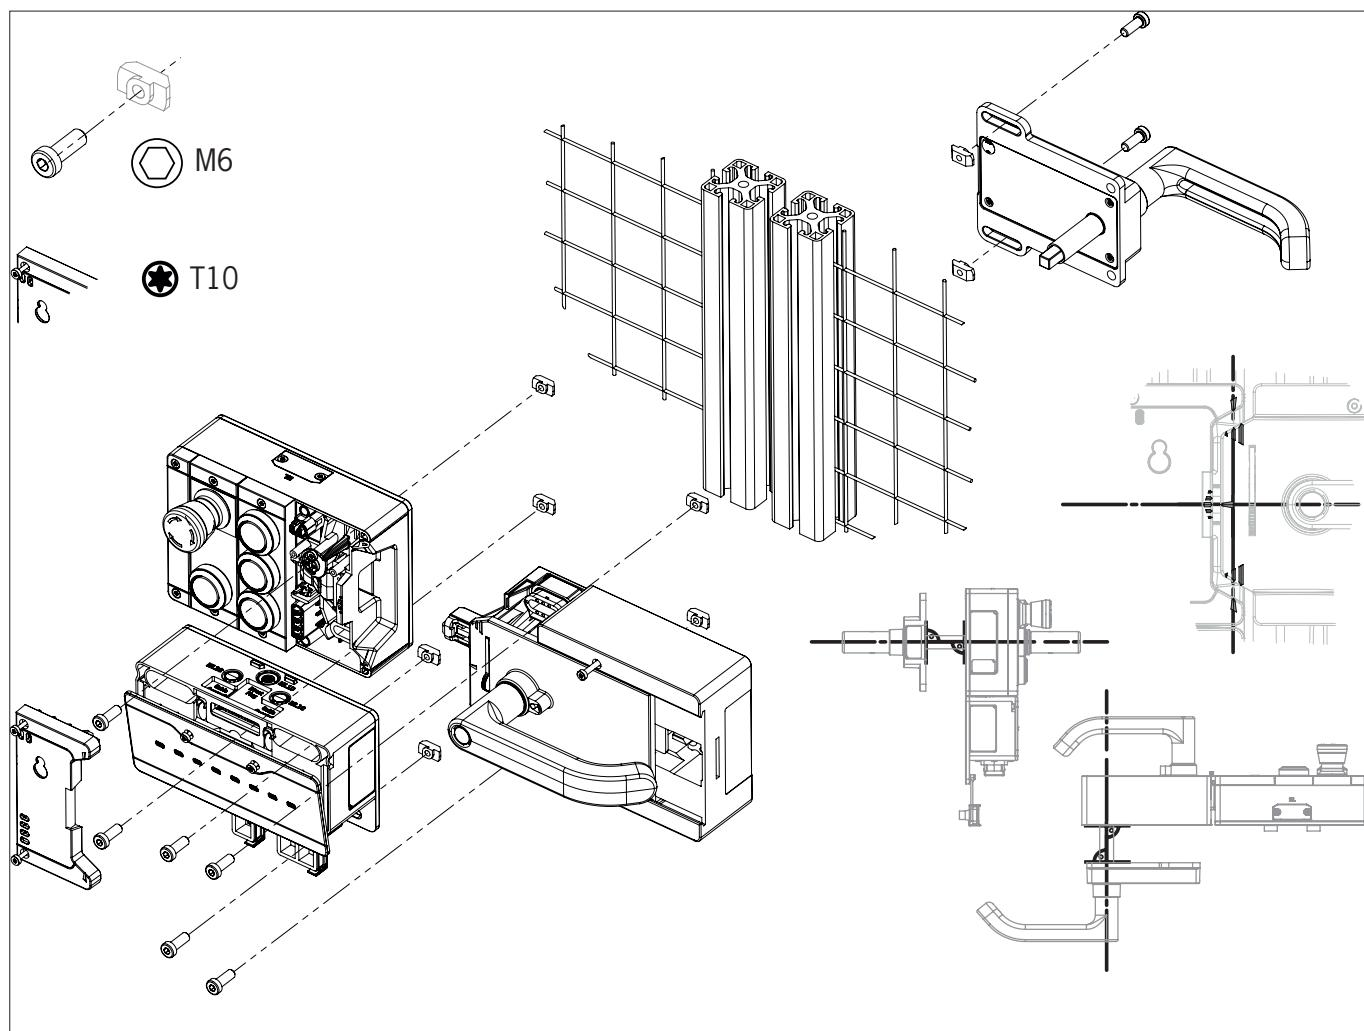
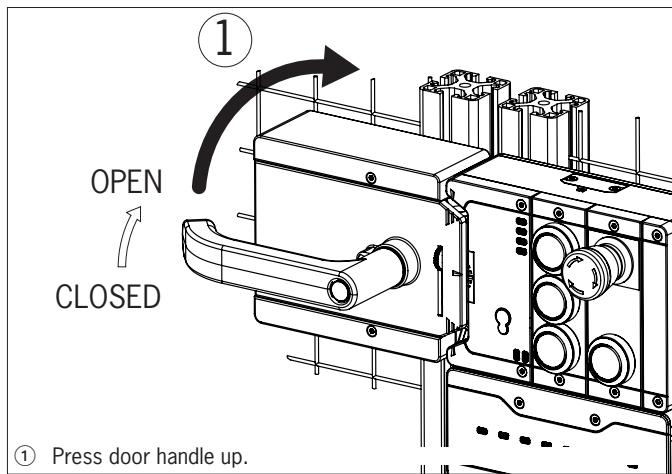

Figure 8: Installation example for door hinged on the right (general view)
Figure 10: Changing actuating direction, step ①
- Align escape release axis at right angles to the handle module. See Figure 8.
- During mounting, pay attention to correct alignment. Use the alignment aids on the housing for the interlocking/locking module and on the housing for the handle module (see *Figure 8*).
For mounting steps, see *Figure 8* and *Figure 10* to *Figure 15*.
- The system is mounted the other way up for doors hinged on the left. In other words, the guard opens by pressing up the door handle (see *Figure 10*). For this reason the actuating direction of the door handle must be changed (see *Figure 10* to *Figure 15*).